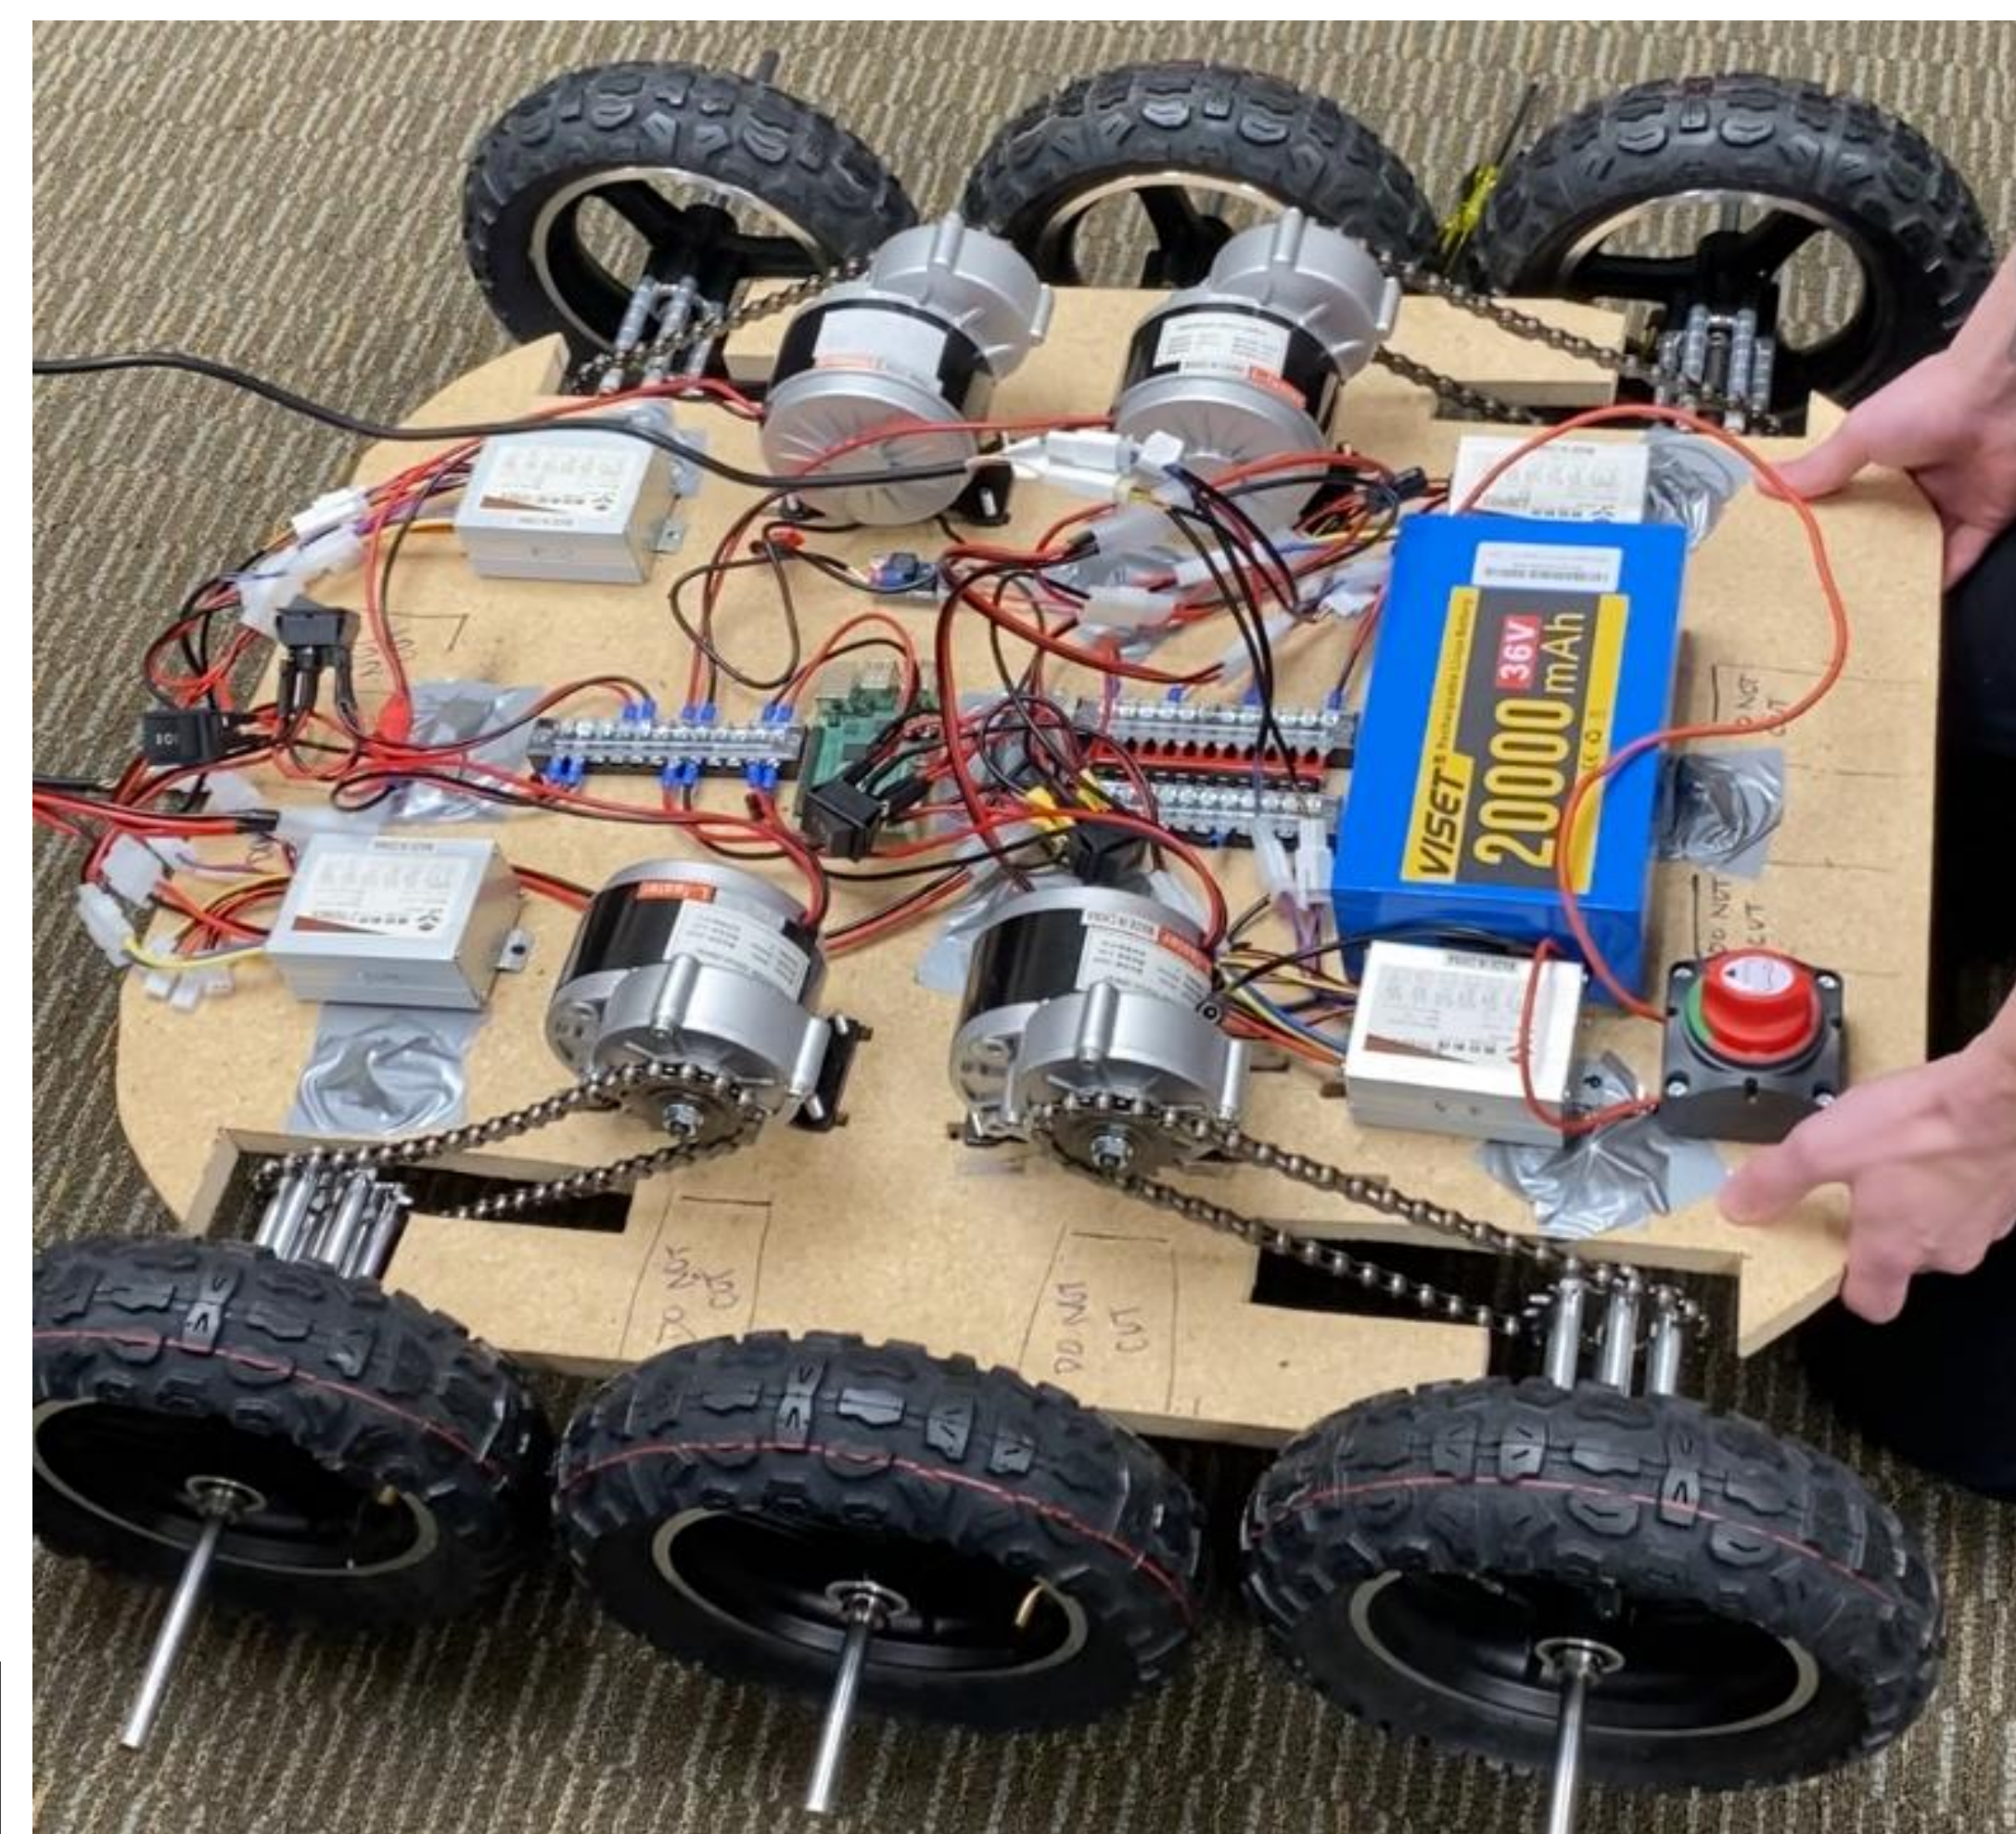

Figure 2: Internal robot wiring.
- 3D-printed body, six wheels with four motors for the potential of 4WD, tank steering method (Fig. 2,3).